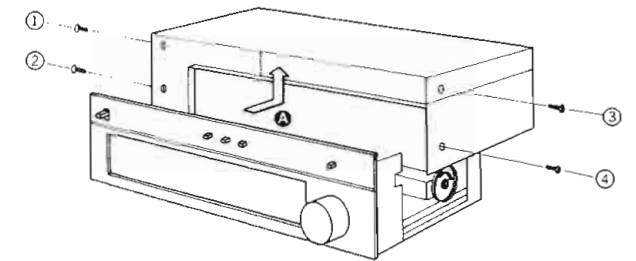

Fig. 5
1. Remove the 4 screws. (nos. ① ~ ④ screws in fig. 5).
3. Sliding it toward A direction and lifting it upward as shown in fig. 5.